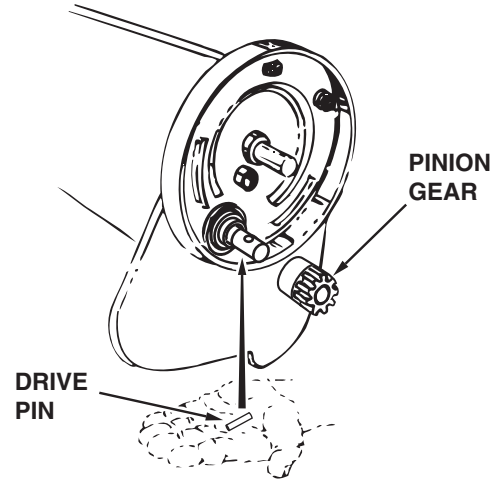

FIGURE 27
3. Remove the gear by sliding it off the brush shaft. (Look for the drive pin, which may fall out of the brush shaft when the ratchet gear is removed.) See figure 27.